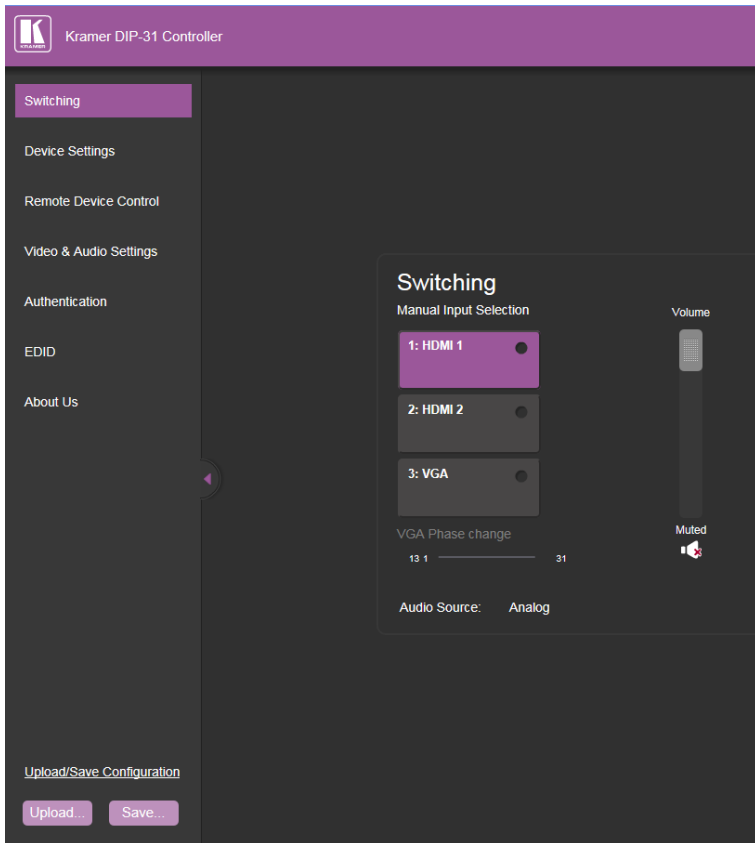

Figure 9: Main Switching Page
The Switching page appears as shown in Figure 9.
The Upload/Save Configuration facility (see item 4 in Figure 9) lets you retrieve and save a configuration.